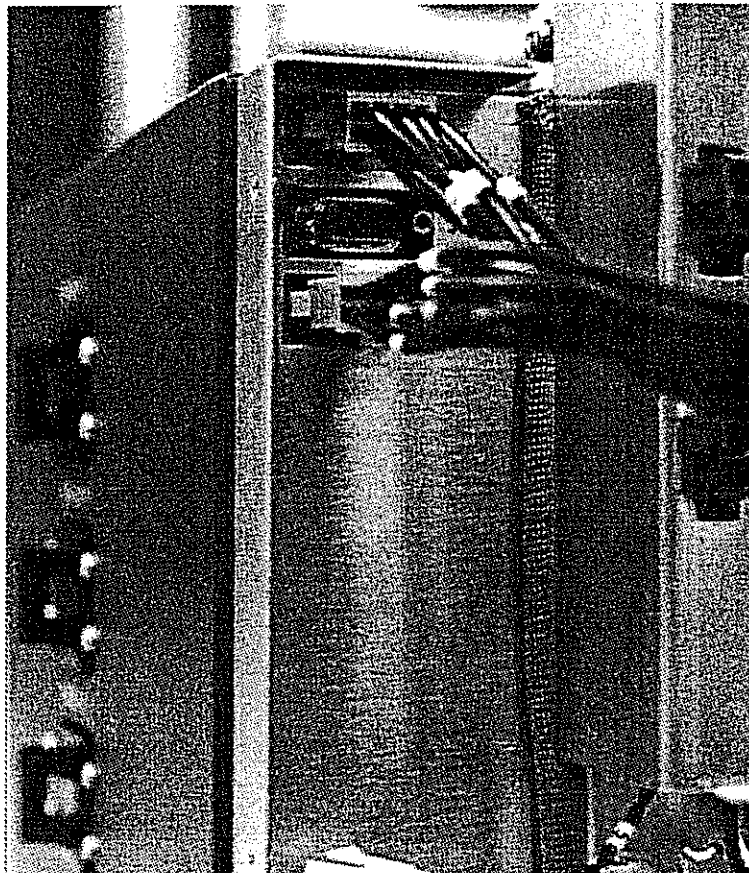

Figure 7-61. Incoming Power Module Connectors and Data Cable
5. Unplug the J2, J3, and J4 connectors from the incoming data cable module. Refer to Figure 7-61. The J3 connector is attached with two screws.
7. Unplug the J2, J3, and J4 connectors from the incoming power module's data cables. Refer to Figure 7-61. The J3 connector is attached with two screws.